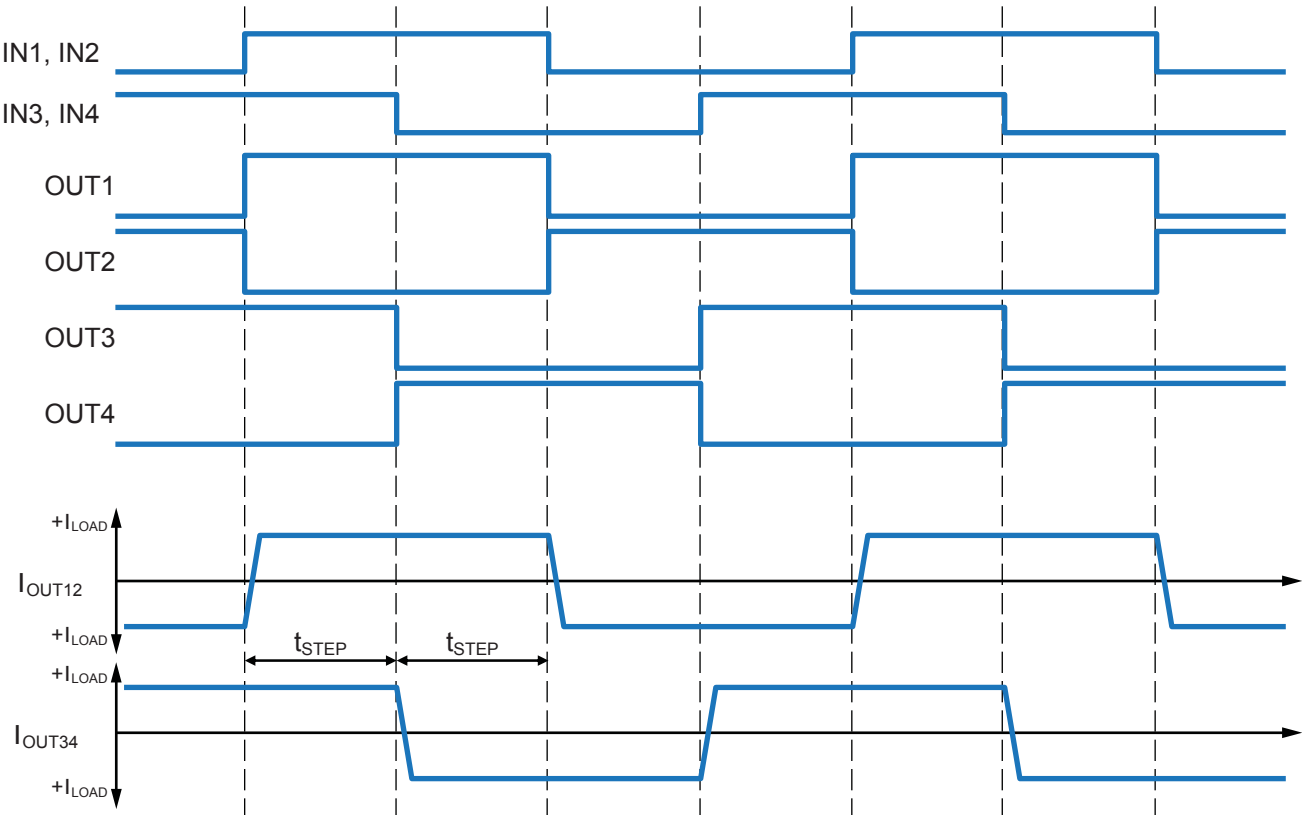

Figure 1. Stepper Motor Input and Output Sequence Timing Diagram
- **Stepper Motor** – A two-phase stepper motor is made to rotate by sequencing the relative currents in each phase using the four inputs as shown in figure 1. In its simplest form, each phase in turn is fully energized by applying a forward or reverse voltage to each winding in sequence.